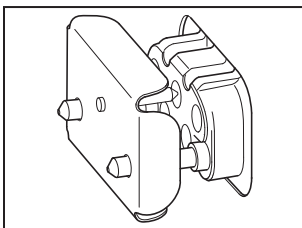

Fig. 1
- Allow the induction plate to cool down before removal if cleaning is required. When the induction plate is removed from the oven, ensure the supplied socket cover is used to prevent dirt entering the electrical socket (Fig. 1).